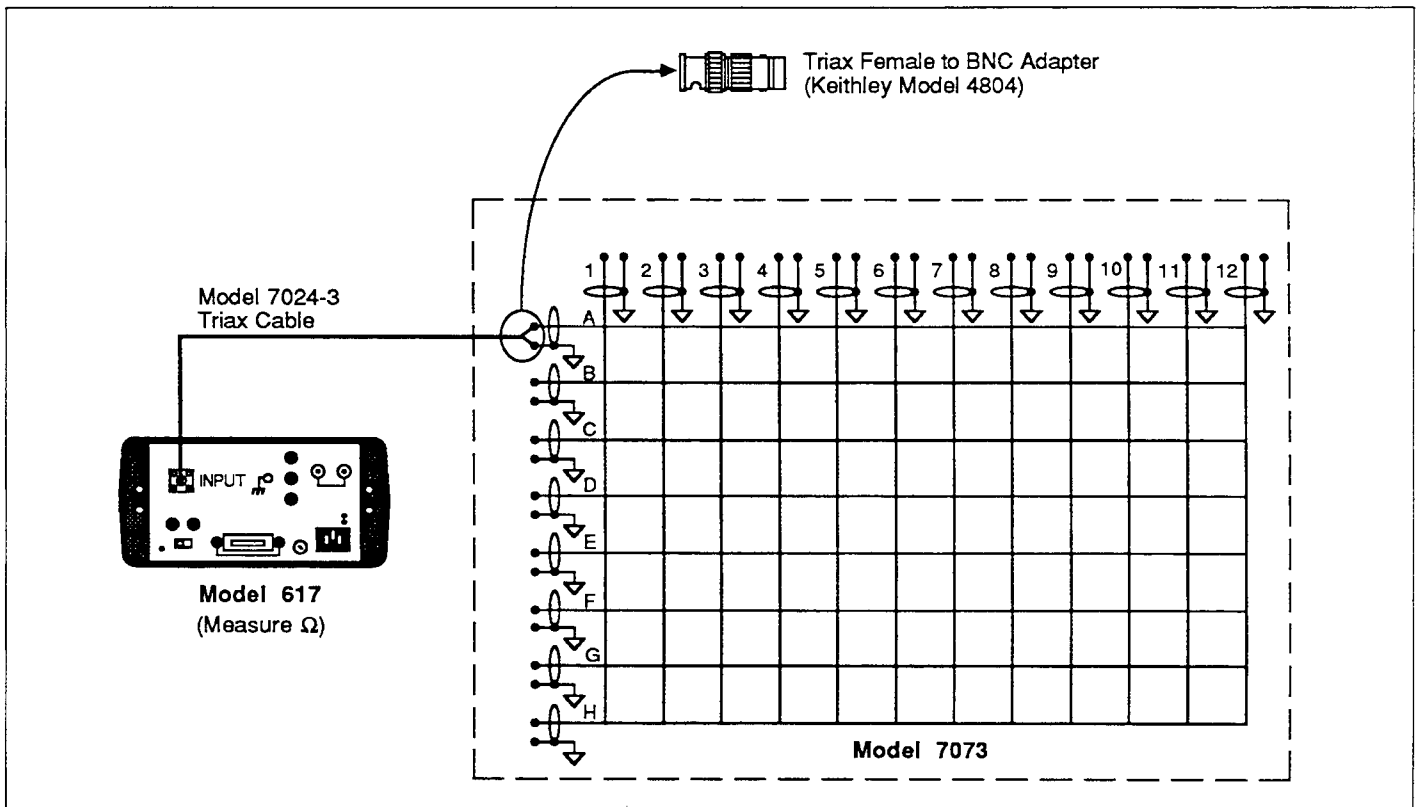

Figure 4-6. Input Isolation Testing
Referring to Figure 4-6, perform the following procedure to check input isolation:
4. Connect the Model 617 to the matrix card as shown in Figure 4-6.